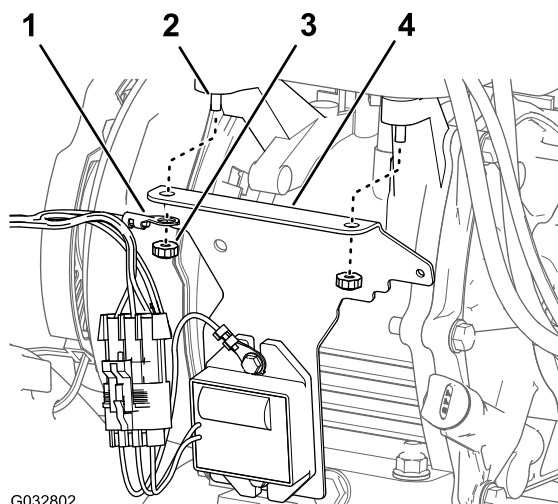

Figure 9
- **1800 or 2100 series machine**—At the back of the engine, remove the 2 nuts that secure the tank to the engine (Figure 9).
- Align the ground terminal of the wire harness with the left hole short flange of the mounting bracket for the voltage regulator as shown in Figure 9.
- Align the holes in the short flange of the mounting bracket for the voltage regulator with the rear studs of the fuel tank (Figure 9).
- Assemble the mounting bracket and ground terminal to the engine with the 2 nuts that you removed in step 1 (Figure 9).